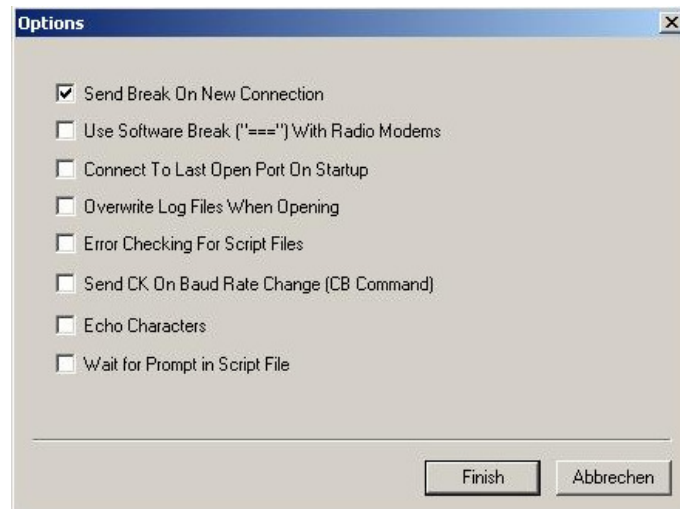

Figure 4: Program settings in BBTalk
3. Choose menu File / Options and select settings as shown in Figure 4.